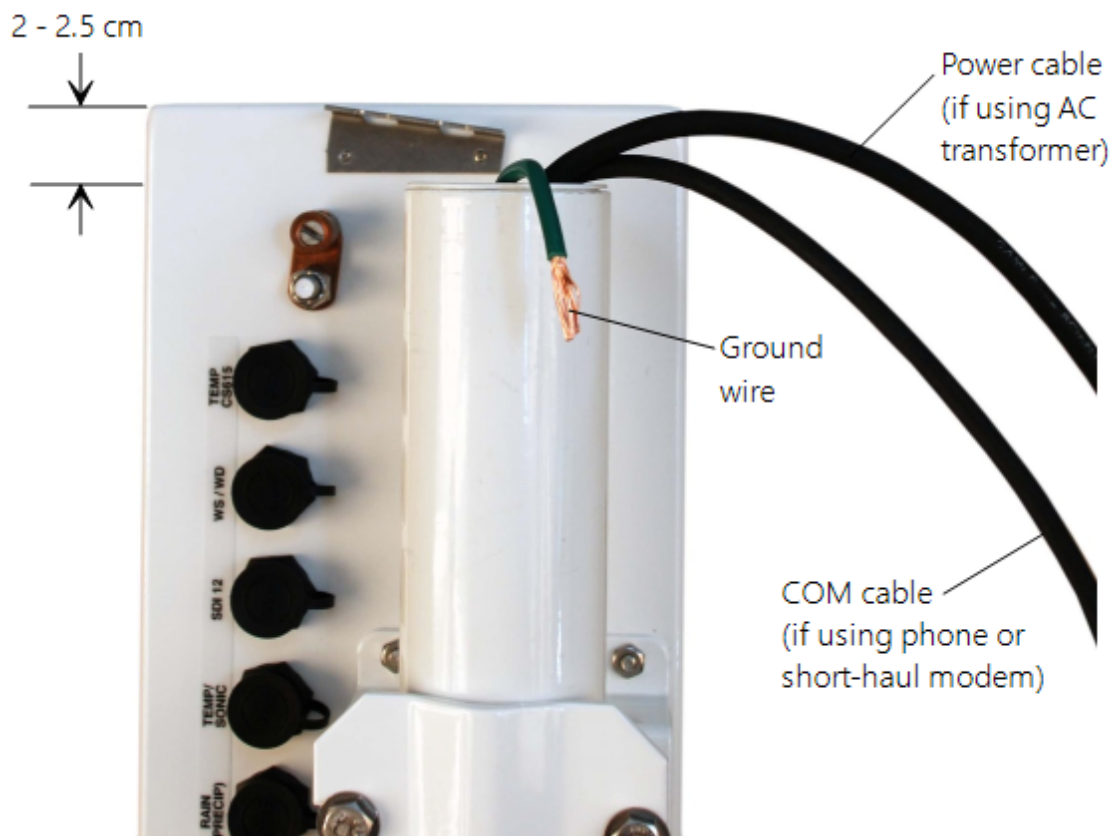

FIGURE 6-6. Enclosure spacing above pole
Mount the enclosure on the pole as shown in FIGURE 6-6 (p. 20).
4. Position the enclosure so it faces east for northern latitudes or west for southern latitudes. The top of the enclosure should be 2 to 2.5 cm (3/4 to 1 in) above the top of the pole (FIGURE 6-6 (p. 20)).